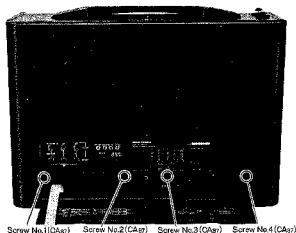
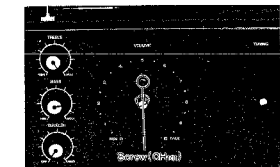

Fig. 8
Fig. 11
5. Remove the one (1) chassis screw as shown in fig. 11.
6. Remove eight (8) knobs from cabinet.
8. Remove the four (4) screws (nos. 1~4) for the cabinet back cover, as shown in fig. 8.